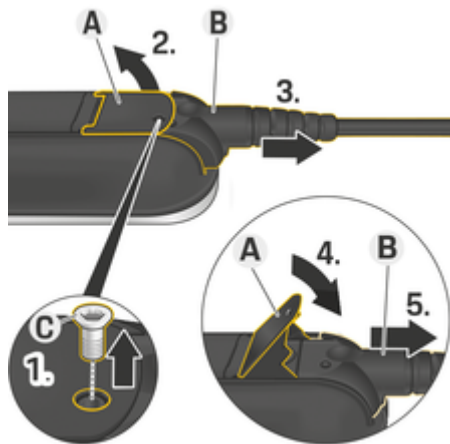

Fig. 8: Disconnecting cables
1. Remove screw **C** (Fig. 8) using a suitable tool.
2. Lift the lever **A** (Fig. 8).
3. Pull out the plug **B** (Fig. 8) until resistance is first felt.